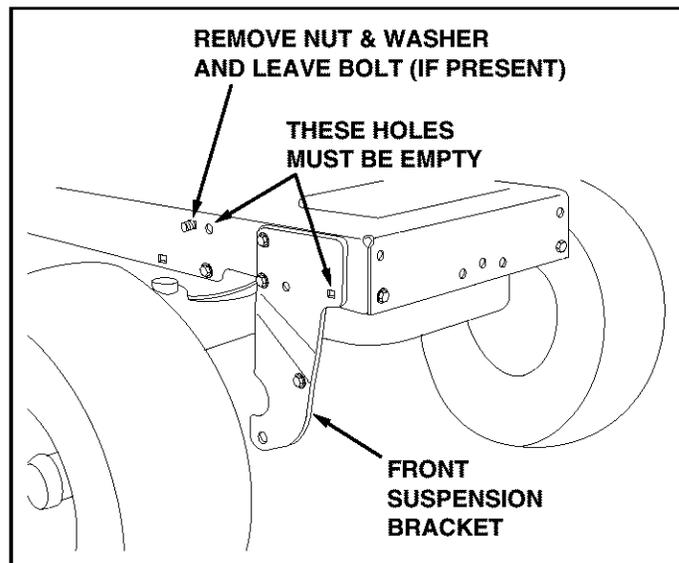

FIGURE 1 RIGHT SIDE VIEW
TRACTORS WITH FRAME MOUNTED FRONT SUSPENSION BRACKETS (See figure 1.)
- Remove any bolts that are present in the two holes shown as empty in figure 1.
- If there is a bolt in the third hole shown in figure 1, remove the nut and washer but leave the bolt in place.
- If you removed a nut and washer from the bolt in figure 1, assemble a whizlock nut onto the bolt.